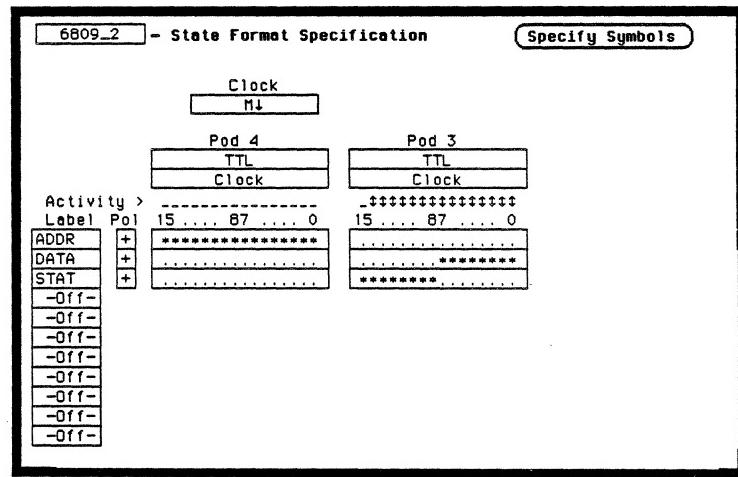

Figure B-1. Format Menu Configured for Two 6809/6809Es
6. Bring up the Format menu of Analyzer 2 and set up the labels and configuration for pods 4 and 5 as they appear for pods 1 and 2 (see figure B-1).
7. Assign the M clock to pods 4 and 5 the same way the J clock is assigned to pods 1 and 2 (see figure B-1).